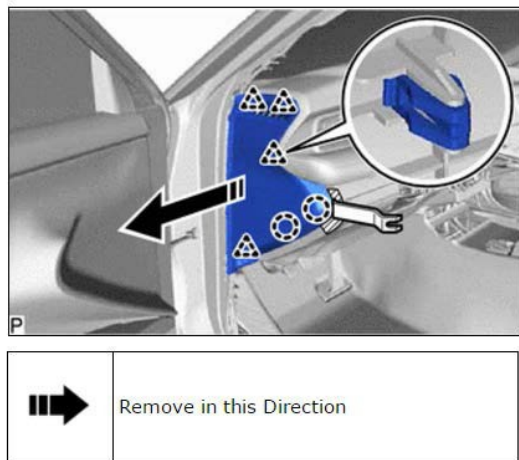

Figure 7
- (a) Using a molding remover, disengage the 2 claws and 4 clips as shown in Figure 7.